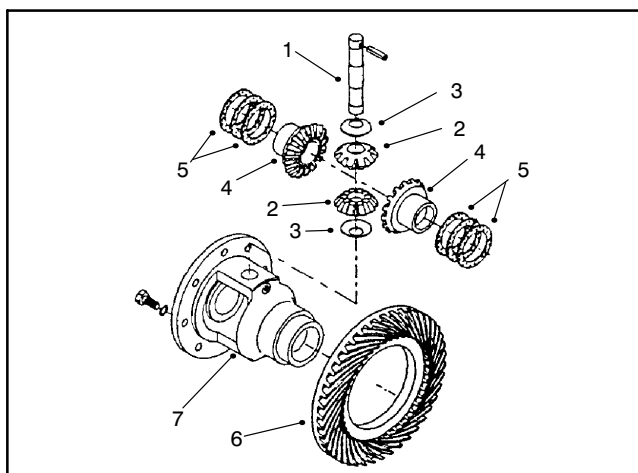

Figure 33
7. Remove the differential pinion shaft, pinion gears, and pinion washers. Remove the differential side gears and side gear shims. Remove the ring gear only if it will be replaced (Fig. 33).